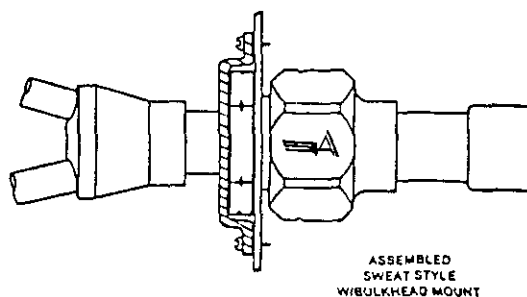
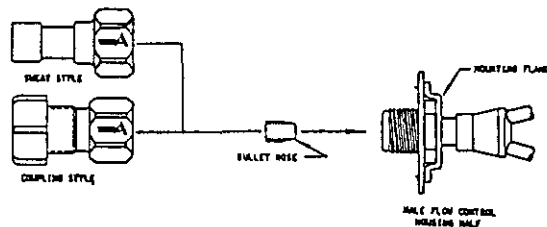
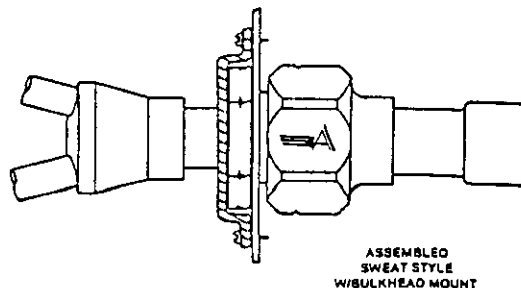
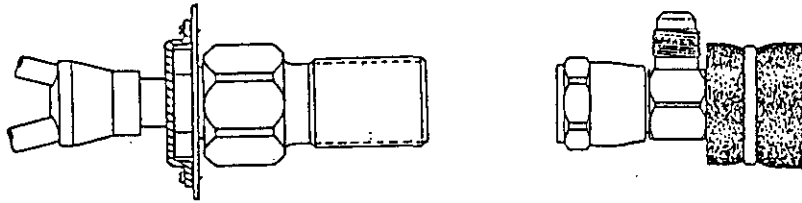

FIGURE 2.
FIGURE 1.
FIGURE 2.
FIGURE 3.
- STEP 7 Complete piping and installation of unit per installation instructions. See Figure 2 for detailed assembly instructions for sweat type and Figure 3 for detailed assembly instructions for coupling type coils.
**CAUTION:** Be sure there is no dirt introduced into the distributor - orifice assembly. Be sure and install the orifice with the bullet nose pointing in the proper direction as shown in figure 1. Failure to do so will result in improper operation.
**NOTE:** If the orifice does not have to be changed, skip the instructions outlined further in figure 1 and proceed to figures 2 or 3 as applicable.